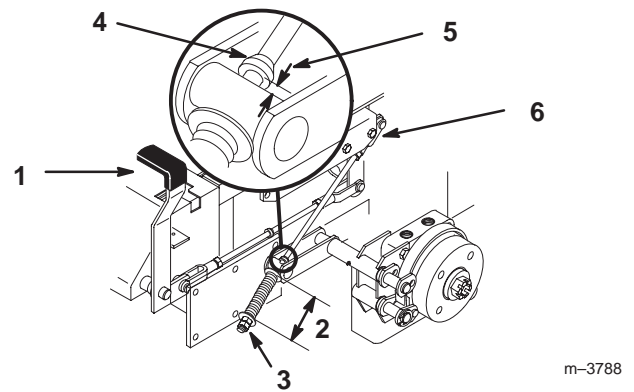

Figure 57
2. Measure the length of the spring. Measurement should be 2.75 in. (70 mm) between washers (Fig. 57).
3. If adjustment is necessary, loosen the jam nut below the spring and tighten the nut directly below the yoke (Fig. 57). Turn the nut until the correct measurement is obtained. Tighten the two nuts together and repeat on opposite side of unit.
6. Measure the distance between the trunnion roller and the collar on brake rod. Measurement should be 3/16-1/4 in. (5-7 mm) (Fig. 57).
7. If adjustment is necessary, loosen the jam nut directly below the yoke. Turn the bottom rod until the correct measurement is obtained (Fig. 57). Tighten jam nut at yoke.